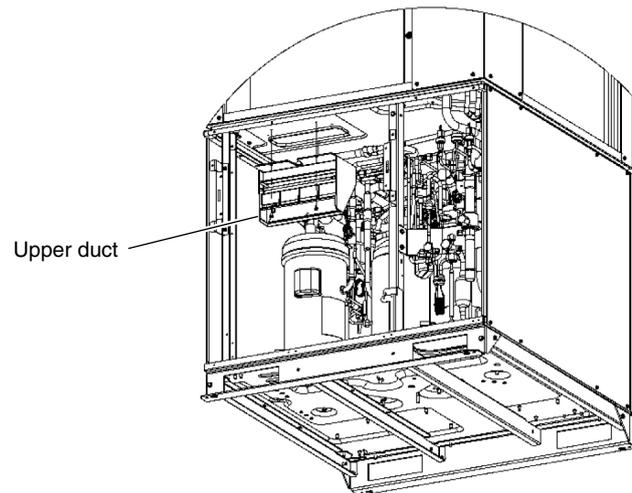

Fig. 5-2
(8) Remove the upper duct. (3 screws) (Fig. 5-2)